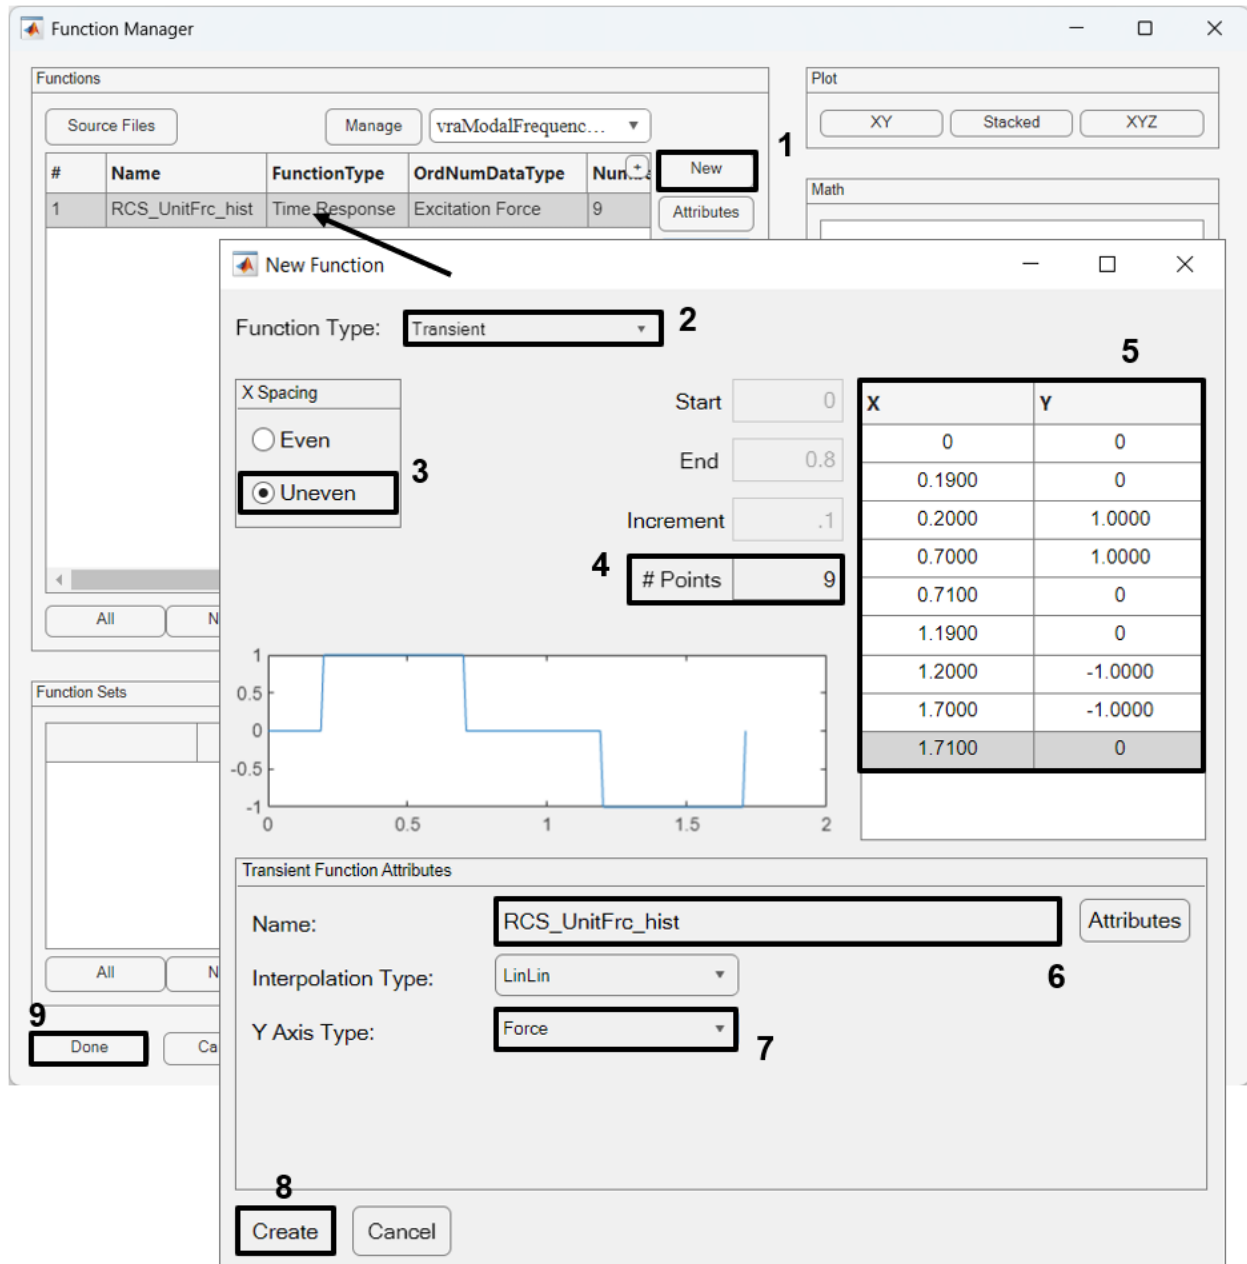
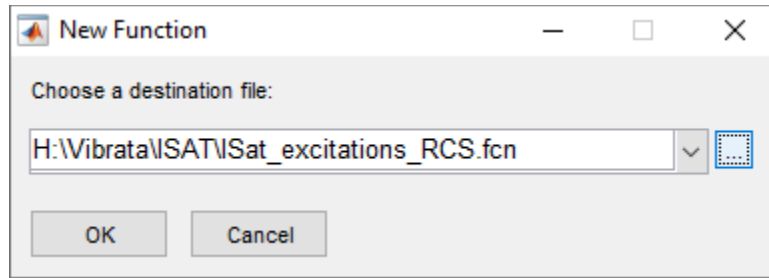

Figure 4-95. Thruster force transient for Isat maneuver.
Figure 4-96. Save the Isat thruster forcing function to a file.
- In the Function Manager, you will create a time function to excite the Isat transient event. If you have already run the random examples in section 4.3.1, open the "Isat_excitations.fcn" file used there; if that file does not currently exist, you will create it when you have finished defining the function for the current example. As shown in Figure 4-95, create a new transient function, set its Y-axis to *Force*, give it uneven X-spacing, set the number of points to 9, and assign it the X and Y values shown. The pulses have unit amplitude; this will let us size the RCS thrusters just by scaling the excitations. Remember to give the function a recognizable name. Click **Create** to store the function to an *fcn* file (Figure 4-96). Click **Done** on the Function Manager to return this function to the Point Force dialog. Assign it a scale factor of